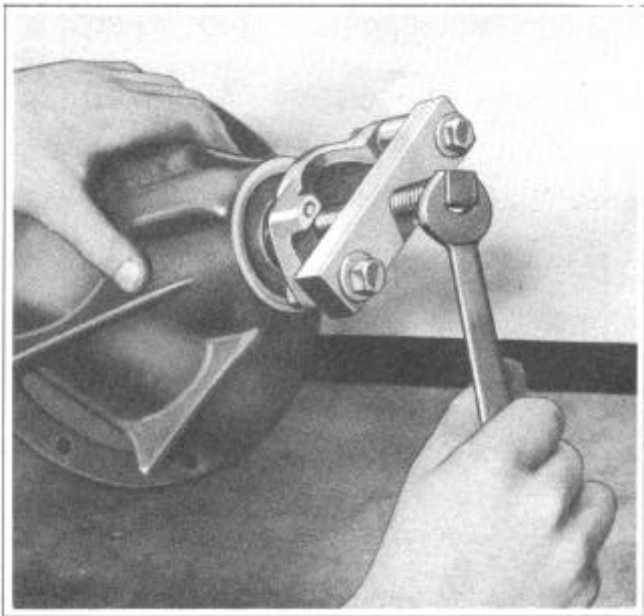

FIGURE 44
15. Remove companion flange from drive pinion, using J-820 Companion Flange Puller, Figure 44.